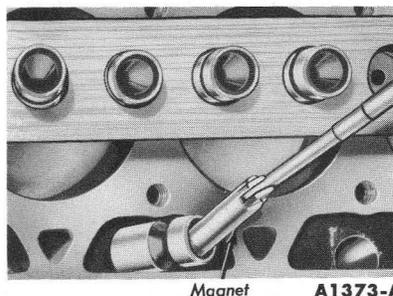

FIG. 56—Valve Tappet Removal
11. Using a magnet, remove the tappets and keep them in order so that they can be installed in their original location (Fig. 56).
2. Using a magnet, remove and install one tappet at a time (Fig. 56). Apply Lubriplate to each tappet foot and coat the remainder of the tappet with engine oil before installation.